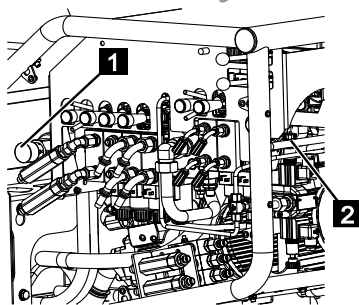

Fig. 199
7. After service mode, screw the valve [LS] (Fig.199/2) out again completely and unlock the valve [platform] (Fig.199/1) by turning it anti-clockwise. Screw the covers back into place.